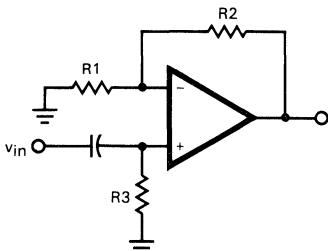

Fig. 8-7 AC Amplifier
- Never forget the need for a dc current path to the op amp inputs. If the op amp is used in an ac amplifier as shown in Figure 8-7, notice that  $R_3$  is required to provide a dc current path to the non-inverting input. Without  $R_3$ , the circuit just does not work!  $R_3$  is also necessary if the source cannot supply the bias current.